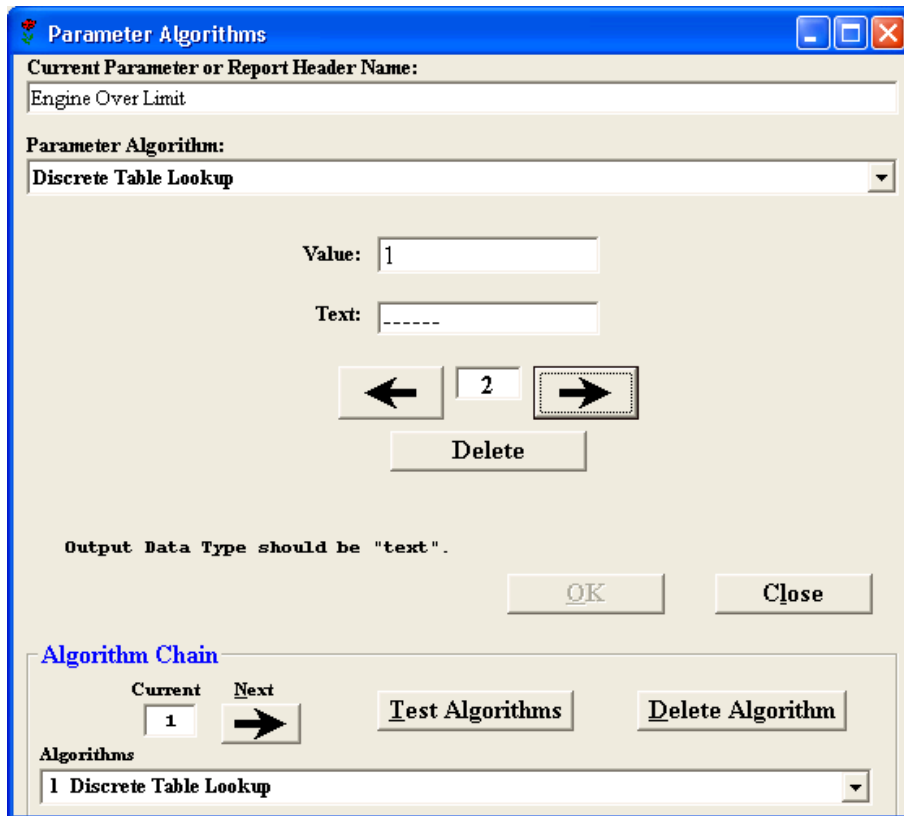

Fig. 4
5. On page "1" select „→“. On page „2“, item „Value“ 1, check item "Text". It have to respond Fig. 4. Return back to the window "Update Database Parameters".